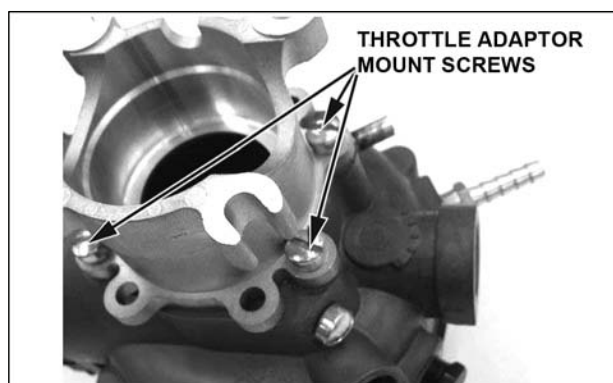

Figure 32. Throttle Adapter Mount Screws
5. Mark the two vacuum lines to the mixer for identification, as they must be installed correctly for proper operation. Remove the two vacuum lines (2).
6. Remove vapor fuel inlet line from the fuel temperature sensor adapter (3).
7. Disconnect the fuel temperature sensor connector (4).
10. Remove the mixer (7), the adapter, and the throttle body (5) as an assembly by gently pulling upwards. Take care not to drop anything down the intake manifold.
15. Remove the short vacuum port barb from the mixer. (See **Figure 32** for location of port barb on mixer.)
1. Install the vacuum port barb below the idle set screw on the mixer (7).
3. Install the fuel temperature sensor to the adapter (6).
4. Install the four mount screws that attach the throttle adaptor to the mixer. See Figure 32. Torque bolts to 30-40 lbf-in (3.39-4.52 N-m).
6. Install the four bolts that mount the throttle adapter to the electronic throttle body (5).
7. Re-connect the fuel temperature sensor connector (4).
8. Install the vapor fuel inlet line to the fuel temperature sensor adapter (3).
10. Install the air cleaner hose (1).